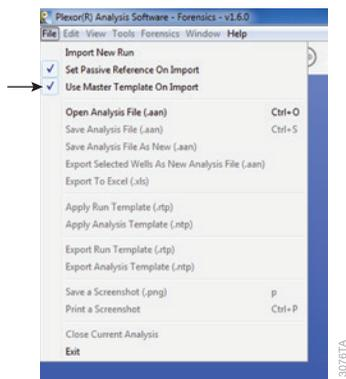

Figure 56. The Plexor® Analysis Software File menu. Check “Use Master Template On Import”.
13. Make sure the “Use Master Template on Import” option in the File menu is checked (Figure 56).